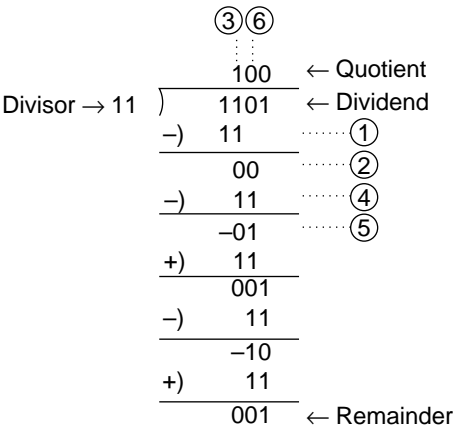

Figure 4.58 Division Example
- Division finds the quotient and remainder by repeatedly subtracting. In figure 4.58, H'0D is divided by H'03 as an example of the division operation.
- iii. The divisor is subtracted from ER2. When the result of subtraction is positive, the LSB of ER0 is set. ((1) to (2) to (3) in figure 4.58). When the results of subtraction is negative, the LSB of ER0 is cleared and the divisor is added to the results of subtraction, returning it to the state prior to subtraction. ((4) to (5) to (6) in figure 4.58).